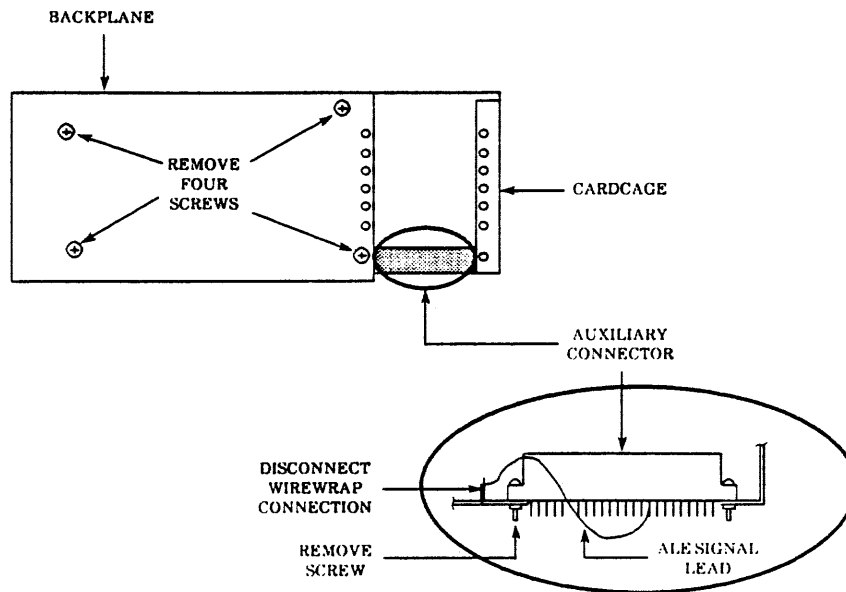

Figure 3-10. Backplane Removal
4. Remove the screw holding the auxiliary connector to the backplane, then remove the three screws holding the backplane to the cardcage. (See figure 3-10.)